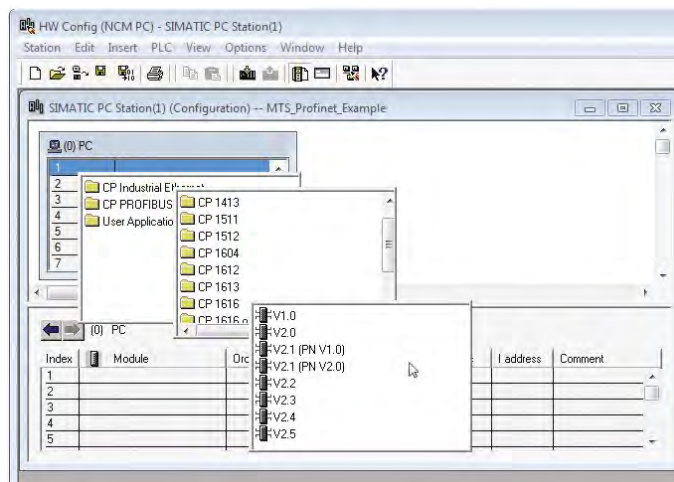

Fig. 57: Insert controller into the network (step 2) (source: Siemens)
- CP Industrial Ethernet (Fig. 57)